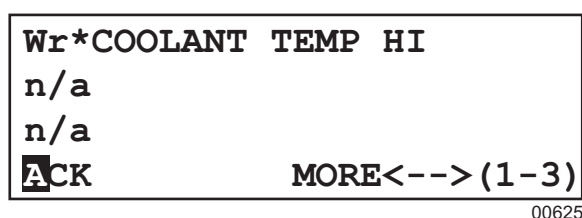

Figure 18 - Typical System Alarm and Warning Page
2. Press ENTER. The System Alarm and Warning Page displays (Figure 18).